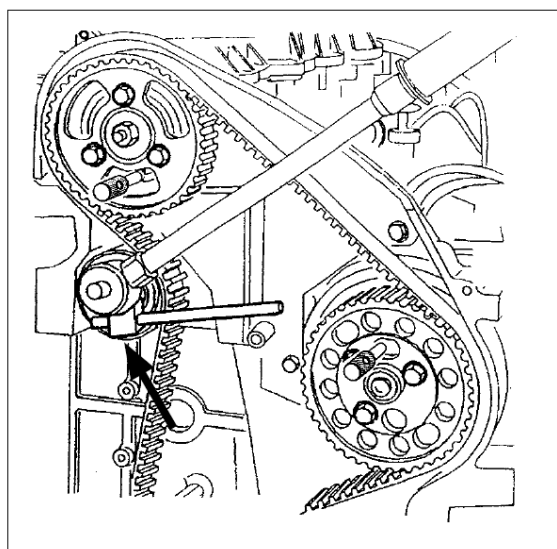

Fig. 2
- This tool is needed in order to turn the tensioner and hold it in place while tightening the locking bolt (25 Nm)(Fig. 2).